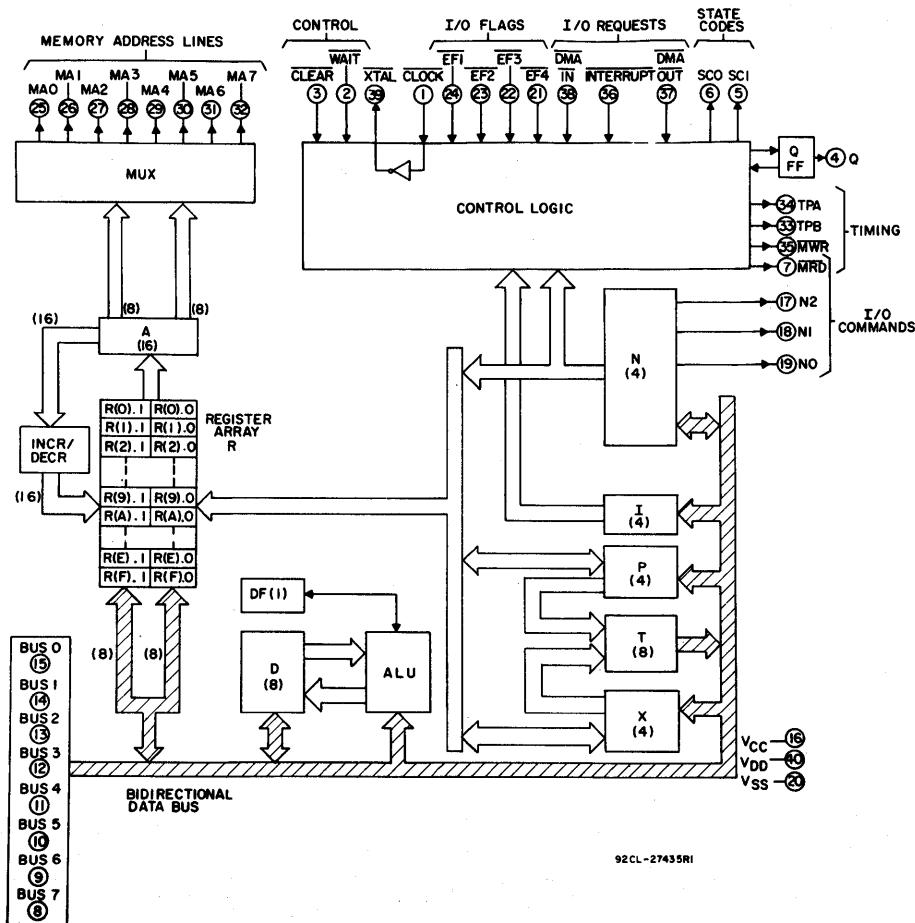

Fig. 14 – CDP1802 block diagram.
The COSMAC block diagram is shown in Fig. 14. The principal feature of this system is a register array (R) consisting of sixteen 16-bit scratchpad registers. Individual registers in the array (R) are designated (selected) by a 4-bit binary code from one of the 4-bit registers labeled N, P, and X. The contents of any register can be directed to any one of the following three paths: